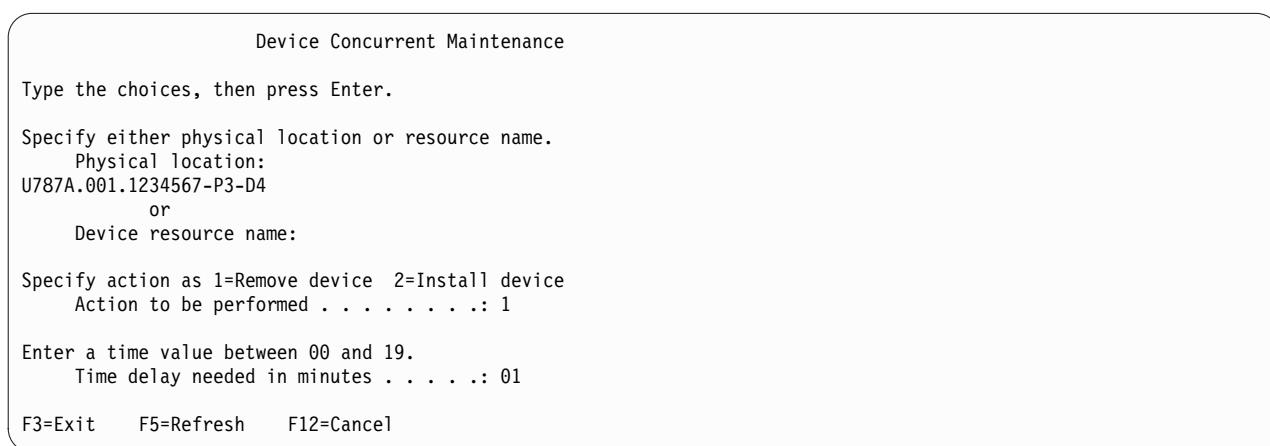

Figure 46. Example Device Concurrent Maintenance display
10. From the Hardware Service Manager, navigate to **Select Device Concurrent Maintenance** option. Press Enter. The Device Concurrent Maintenance display is shown, as shown in the Figure 46.